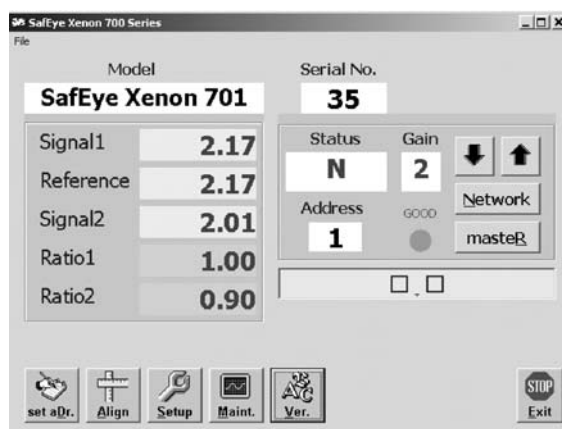

Figure C-10. Software Version
- By selecting the VER button, the Detector software version is displayed (FIGURE C-10).